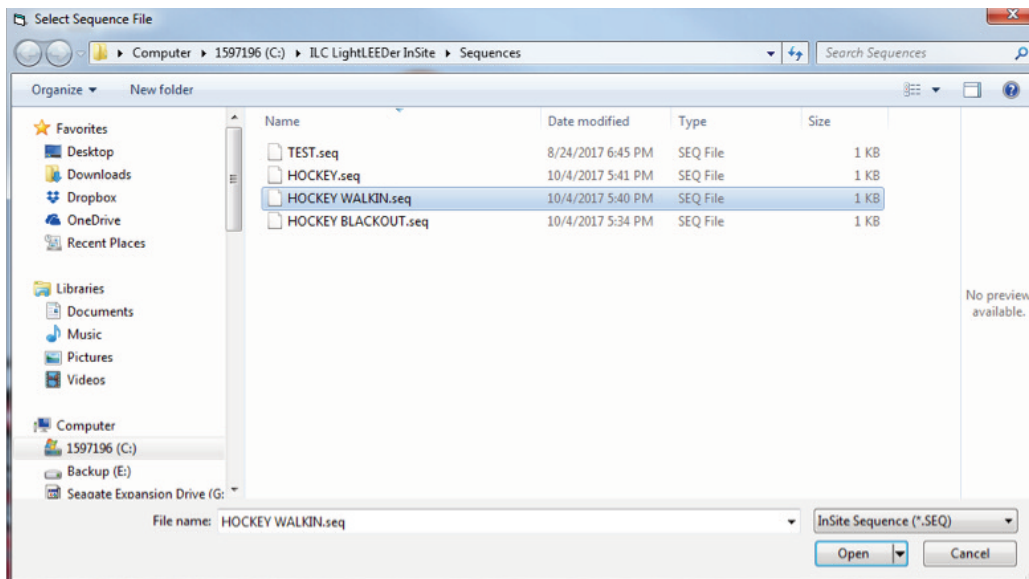

Figure 2.13 Select Sequence
- For Initiate Sequence, press "Edit Control". Select a sequence from the "InSite Sequence" folder as shown in figure 2.13, and Open.